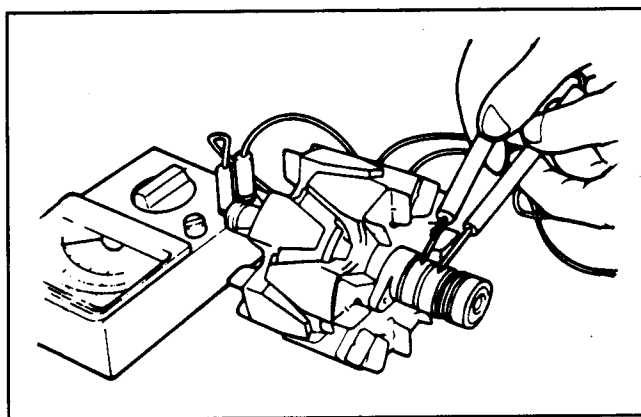

Figure 40
10. Check the field coil for continuity between the slip rings (Fig. 40). If there is no continuity, replace the field coil.